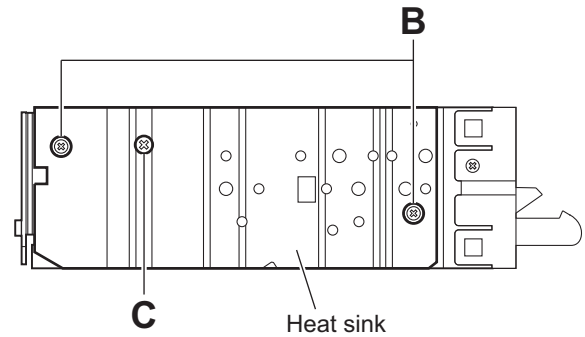

Fig.4
3.1.4 Removing the heat sink (See Fig.4)